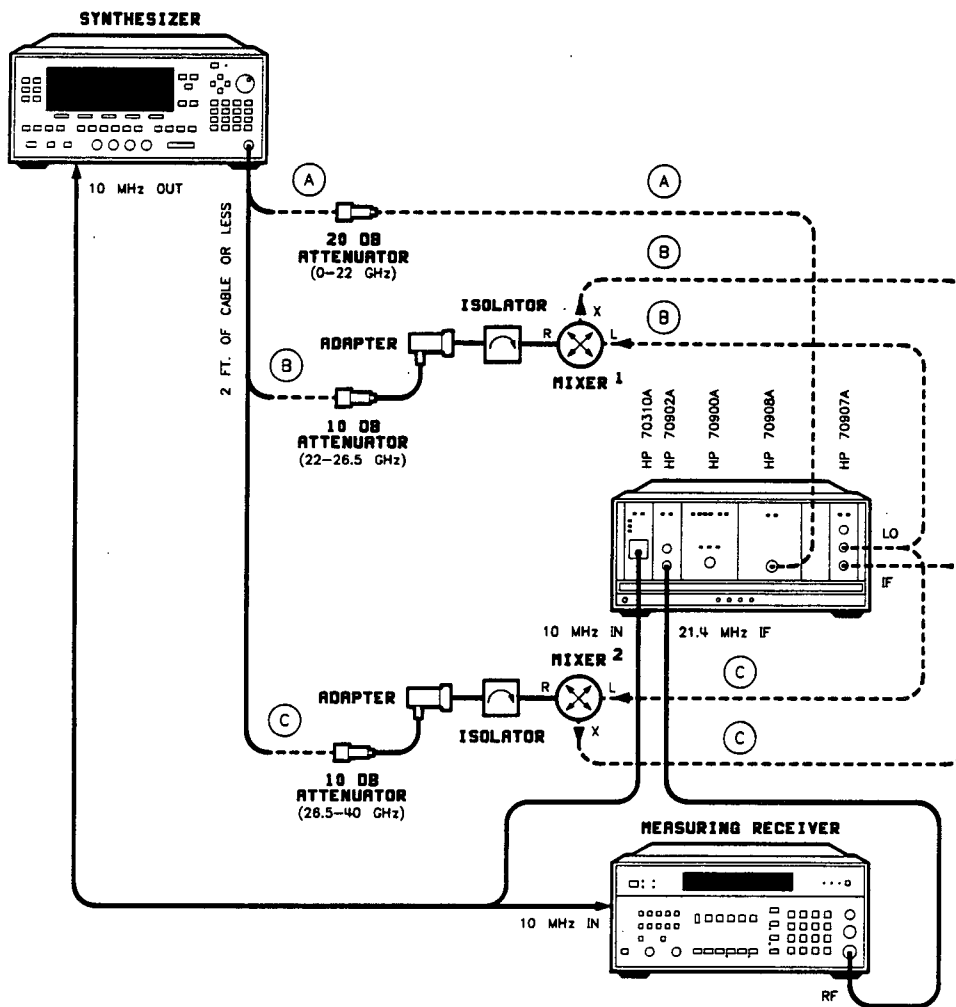

Figure 4-2. Step Attenuator Flatness Setup
*#2 in Figure 4-2.
**#1 in Figure 4-2.
Connect the equipment as shown in figure 4-2. Preset all instruments and let them warm up for at least one hour.